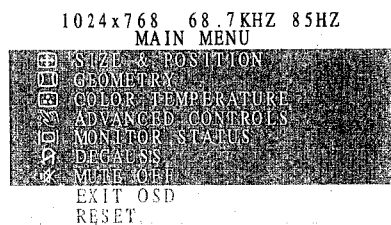
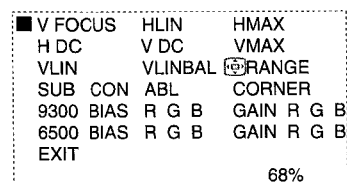
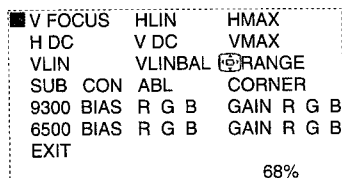

Fig. 2.1
Fig. 2.2
Fig. 2.3
Step 1: To select the character "FACTORY MODE" as shown in Fig. 2.1, press " " to access the OSD menu for R/G/B gain & cutoff as shown in Fig. 2.2.
Step 2: Press " " for function selection as shown in Fig. 2.3.
Step 3: Use " " to increase or decrease the value as shown in Fig. 2.3.
: Press " " to show the OSD menu as shown in Fig. 2.1.
: Select the character "FACTORY MODE" to access the R/G/B adjustment as shown in Fig. 2.2 and Fig. 2.3.
7.6 : Select the 6500K colour temperature as shown in Fig. 2.2.